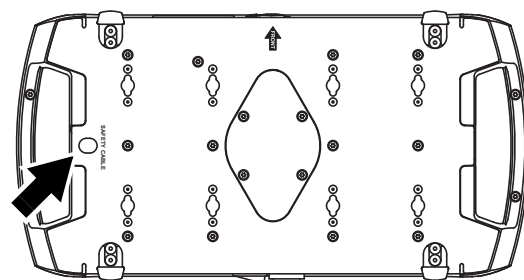

Figure 6: Safety cable attachment point
5. See Figure 6. Install a safety cable that is approved as a safety attachment for the weight of the fixture by looping it through the safety attachment point (arrowed) in the bottom of the base and around a secure anchoring point so that the safety cable will catch the fixture if a primary attachment fails.